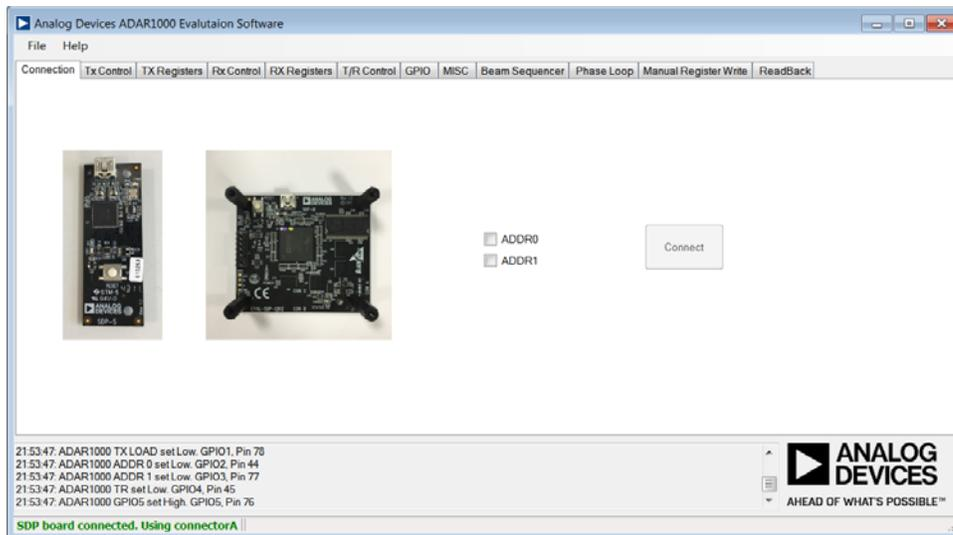

Figure 27. **Connection** Tab
6. After the ADAR1000-EVALZ evaluation software starts up, click the **Connection** tab and then click **Connect** (see Figure 27).
The **Connection** tab displays the two different SDP adapters that can be used to provide the USB interface to the ADAR1000-EVALZ (see Figure 27).
The **ADDR0** and **ADDR1** check boxes in Figure 27 allow the setting or clearing of the two corresponding address bits, AD0 and AD1, on the **ADAR1000** device. These two bits determine which of the four ADAR1000-EVALZ boards on the same serial bus responds to programming information from the bus.